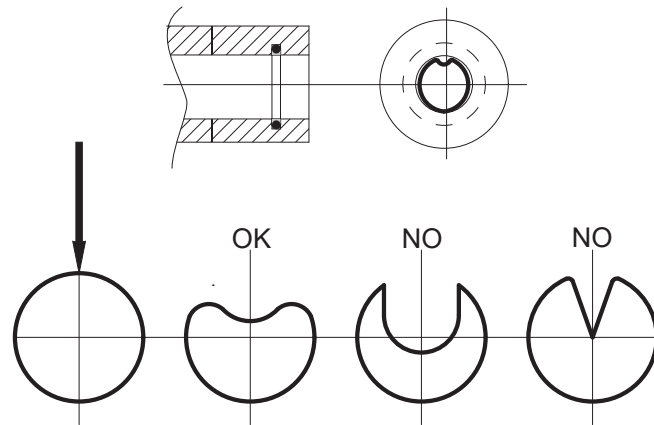

Fig. 9.4
blunt tool. To make it easier to insert the ring, follow the instructions in fig.9.4.
9.3.11) First put the O-ring back in its seat and then the seal ring pos. 23 making it adhere perfectly to the O-ring using a blunt tool. To make it easier to insert the ring, follow the instructions in fig.9.4.